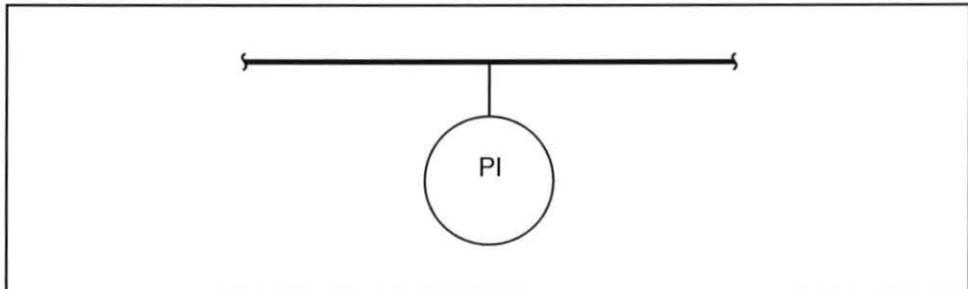

Figure 67. Sensing Element Symbol
3. Determine which type of pressure sensing element symbol is shown in figure 67.